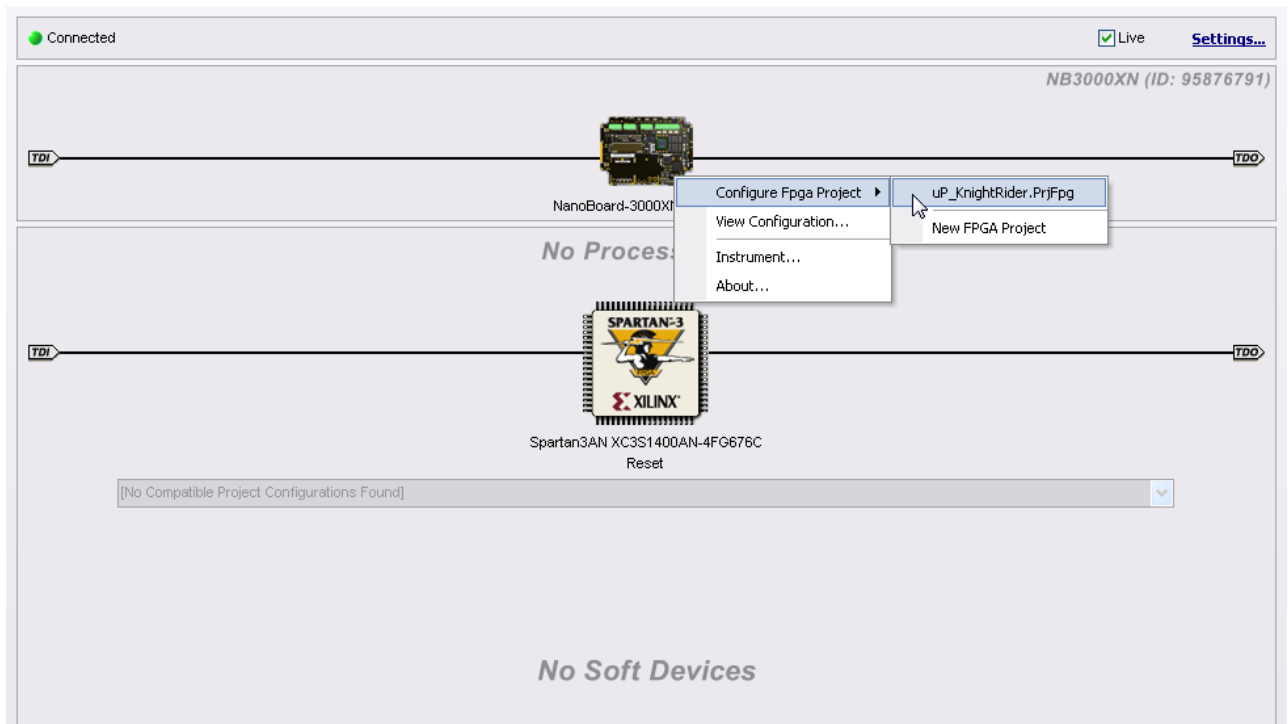

Figure 13. Configure the design to run on the NB3000.
36. An icon of the NB3000 will appear, right-click on it and select **Configure FPGA Project»uP_KnightRider.PrjFpg** from the menu, as shown in Figure 13.